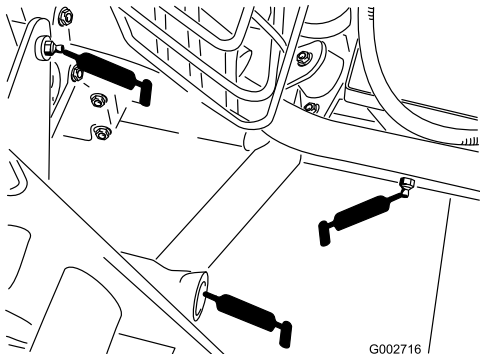

Figure 21
- Attelage arrière (5) (Figure 21)